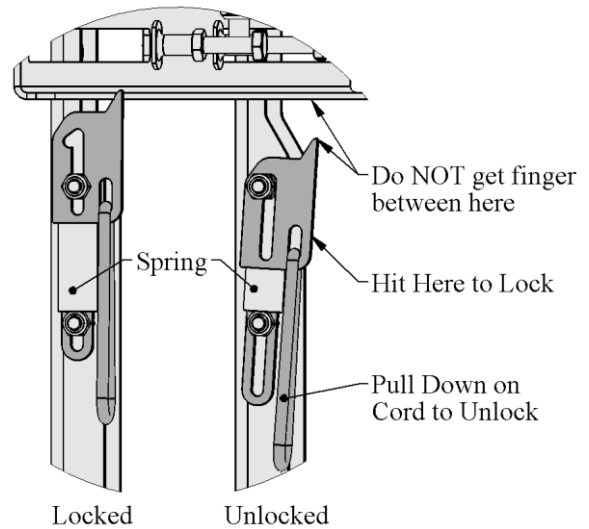

Figure 13 TV Hanger Locks
7. Hit the Hanger Locks as shown in Figure 13 to lock the TV to the mount.
3. Unlock Hanger Lock as shown in Figure 13
6. Lock the TV Hanger as shown in Figure 13